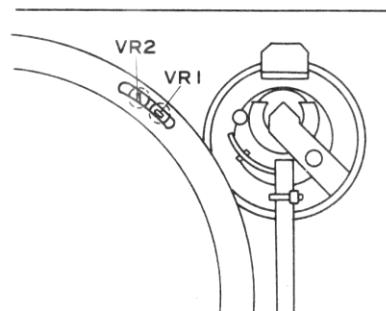

Fig. 12-5 VR1, VR2 position
7. Make certain the phase of end sensor B is 90° advanced over end sensor A (Fig. 12-5).